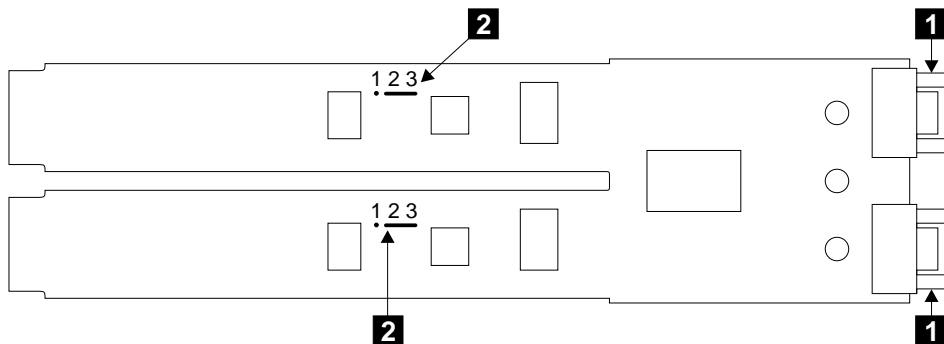

Figure 113. Jumpers Set for Automatic Mode
Step 10. Note that in Figure 113, the jumpers are set for **Automatic mode**. That is, the jumpers **2** connect pins 2 and 3.